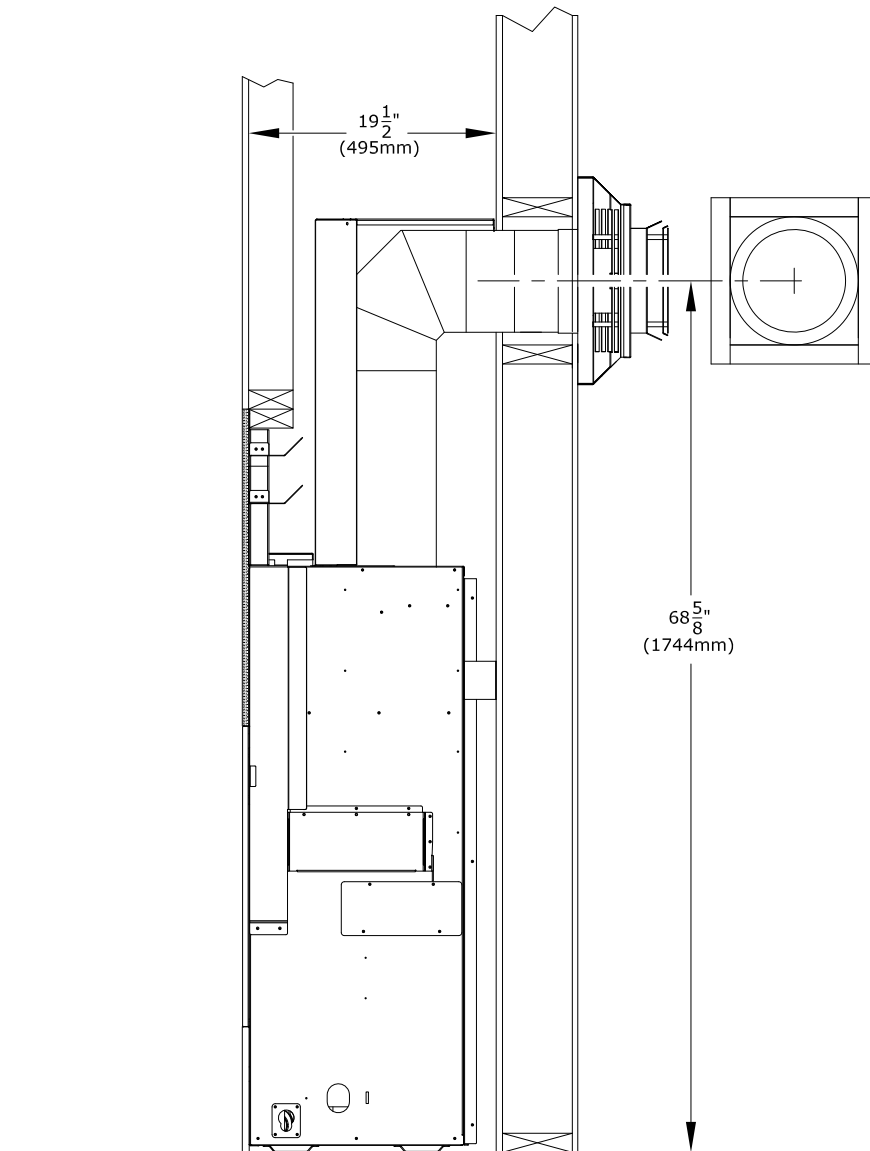

Figure 3.8 - Minimum Wall Thimble Framing
Follow Figure 3.8 below for minimum rough-in dimensions.
1. Measure from floor level of the fireplace to the center of where the vent pipe will penetrate the wall. The dimension in Figure 3.8 is used with a Simpson DuraVent vent pipe.